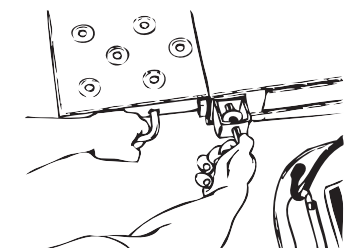

Figure 6
- If you have a tow dolly with pullout loading ramps (Figure 6 and 7), pull both ramps completely out for loading. To release the loading ramp pull and hold the (spring-loaded) ramp release pin outward. Pull the ramp out rearward a short distance, then release the pin.
- ❑ If you have a tow dolly with pullout ramps (Figure 6 and 7), lift and push the loading ramps back into the storage compartments inward until the pin engages the hole in the ramp.
- If you have a tow dolly with pullout loading ramps (Figure 6 and 7), pull both loading ramps completely out. To release the loading ramp pull and hold the (spring-loaded) ramp release pin outward. Pull the ramp rearward a short distance, then release the pin. Continue pulling the ramp out until it stops, then lower it to the ground. Both ramps must be pulled out completely to properly unload the vehicle-in-tow without damaging the tow dolly or the vehicle-in-tow.